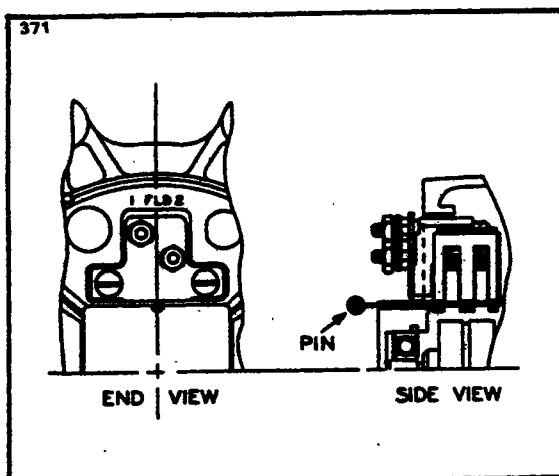

Figure 11-83. Brush Installation
c. **Brushes:** These units have a separate brush holder assembly that is installed after the alternator has been assembled. The brush holder has a small hole that intersects the brush cavities. Use a pin or a piece of wire, as shown in Figure 11-83 to hold the brushes in the holder during assembly. Remove the pin after the brush holder retaining screws have been tightened. Make a continuity check to be sure the brushes are seated against the slip rings.